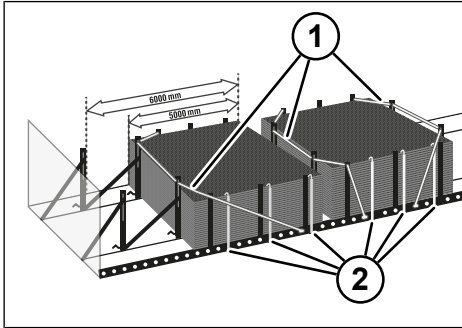

Fig. 8-50: Tie-down lashing of the steel mats
- ▶ If one steel mat package will only be loaded on the front position, brace the rear plug-in posts as well. Ensure that the lashing belts are above the corners of the load. Use edge protection (see "Fig. 8-50: Tie-down lashing of the steel mats", pg. 154).